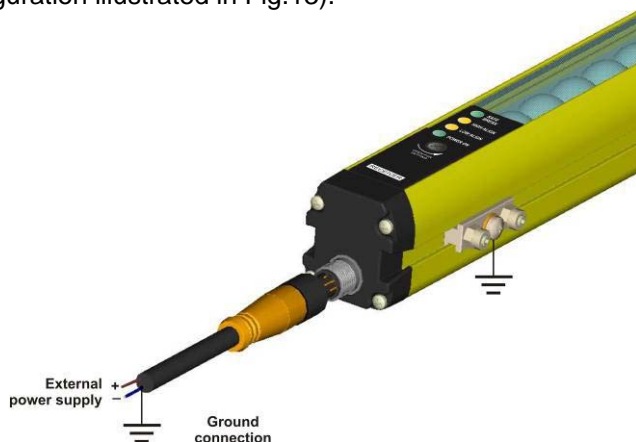

Fig. 13
- It is possible to connect to ground the device housing using the mechanical part supplied for ground connection (refer to configuration illustrated in Fig.13).